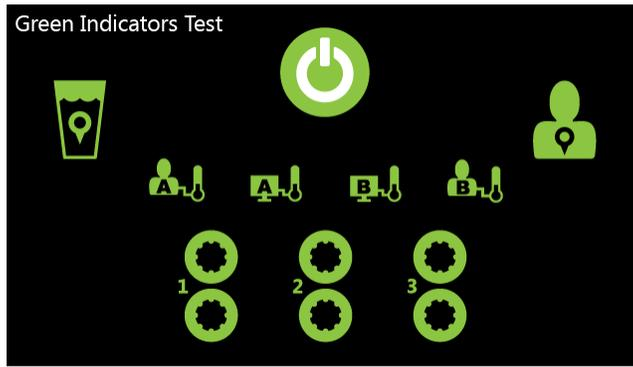
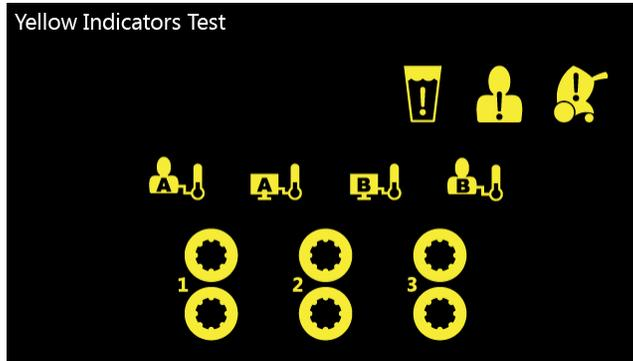
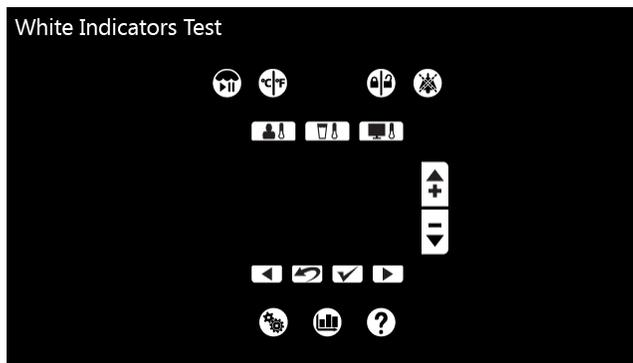

Figure 49 – Green indicator test
Figure 50 – Yellow indicator test
Figure 51 – White indicator test
- b. Verify the green, yellow, and white indicators illuminate, mirroring the displays in Figure 49, Figure 50, and Figure 51.